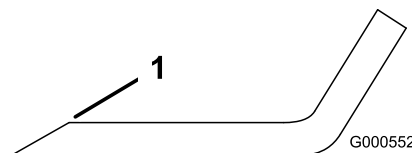

Figure 80
1. Use a file to sharpen the cutting edge at both ends of the blade (Figure 80).
**Note:** If the blade is not balanced, file some metal off the end of the sail area only (Figure 80).